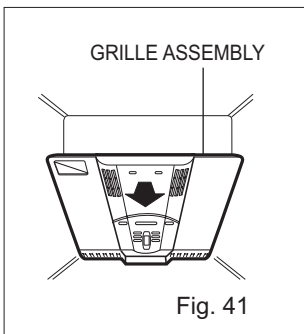

Fig. 41
1. Pull out the grille assembly. (Figure 41)